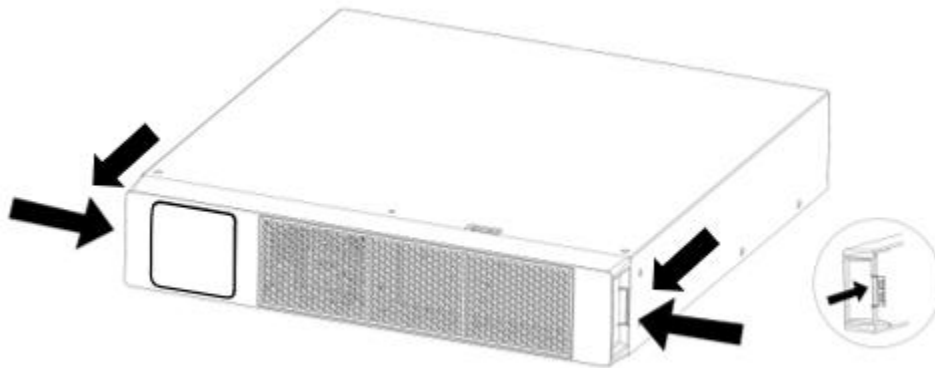

Figure 13: Press the Latches and Remove Faceplate
8. Press both sides of EBP faceplate until the latches release and remove (see Figure 13).